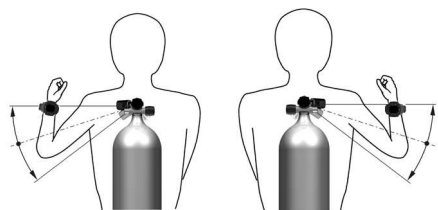

Fig. 1
The transmitter communicates with your dive computer via wireless communication. The best link between your transmitter and your dive computer is achieved when the antenna of your transmitter is parallel to the antenna of your dive computer (see Fig. 1). For best transmission we recommend:
- The side of the first stage, to which the transmitter is fitted, should be the same side as your arm wearing the dive computer (Fig. 1).